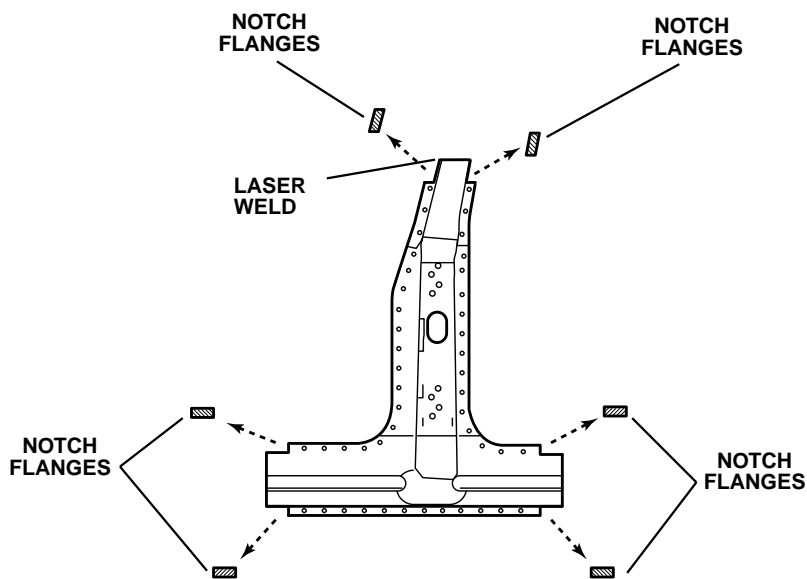

Fig. 1-16 — 2000 DeVille Inner Center Pillar – Preparation
1. Cut center pillar at laser weld location. This will allow a 25 mm (1 in) overlap to the vehicle for welding (Fig. 1-16).